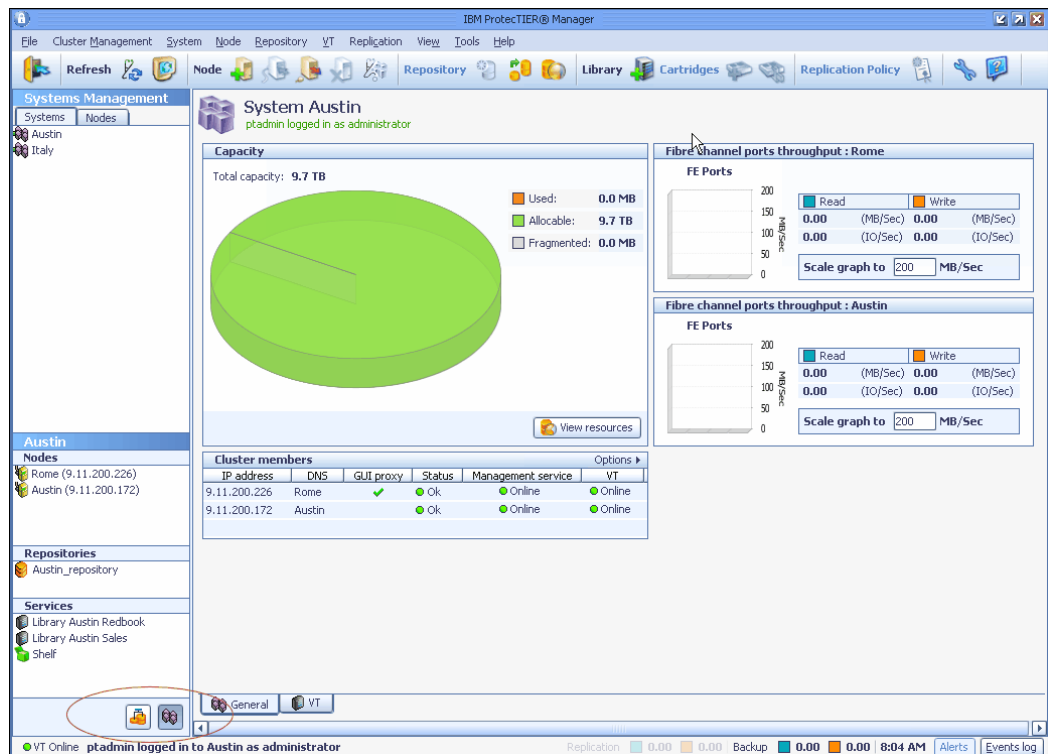

Figure 5-94 ProtecTIER Replication Manager: Select ProtecTIER Replication Manager icon
1. To start the ProtecTIER Replication Manager, click the Grid Management icon (the left icon shown in Figure 5-94) to open the ProtecTIER Replication Manager.